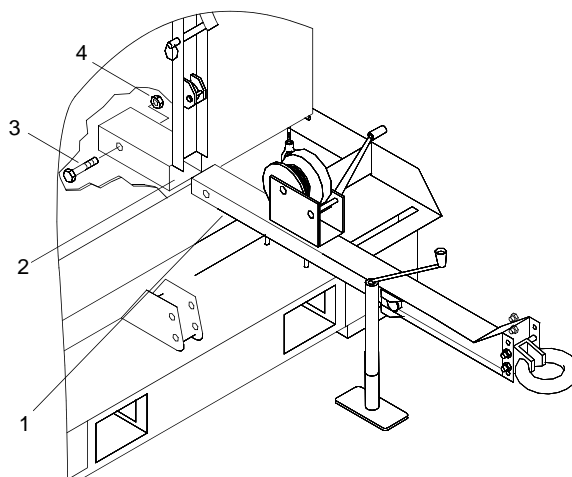

Figure 2. Drawbar Installation
17. Position drawbar (figure 2, item 1) into drawbar receptacle (figure 2, item 2) and secure with bolt (figure 2, item 3) and nut (figure 2, item 4). Tighten nut (14).